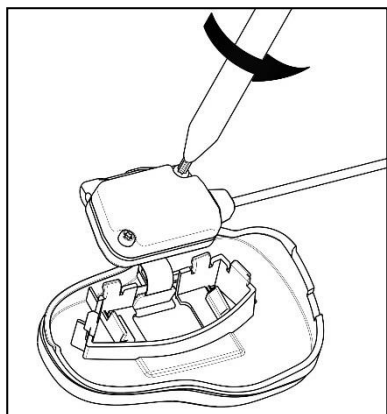

Fig. 1
2. With the help of a Torx screwdriver, remove the two screws of the plastic cover (Fig. 1).